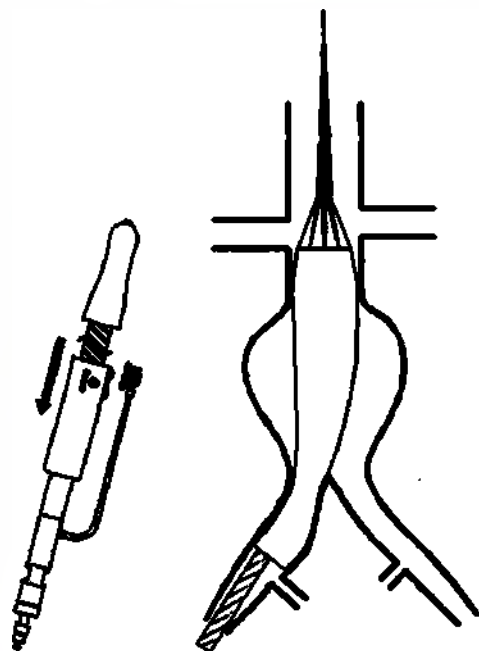

Fig.6 Withdraw outer sheath
- ✧ Rapidly deploy the stent graft. Hold the front grip of the delivery system stationary, then unlock the trigger and pull the slider grip along the screw gear to fully deploy the stent graft. **(Fig. 6)**